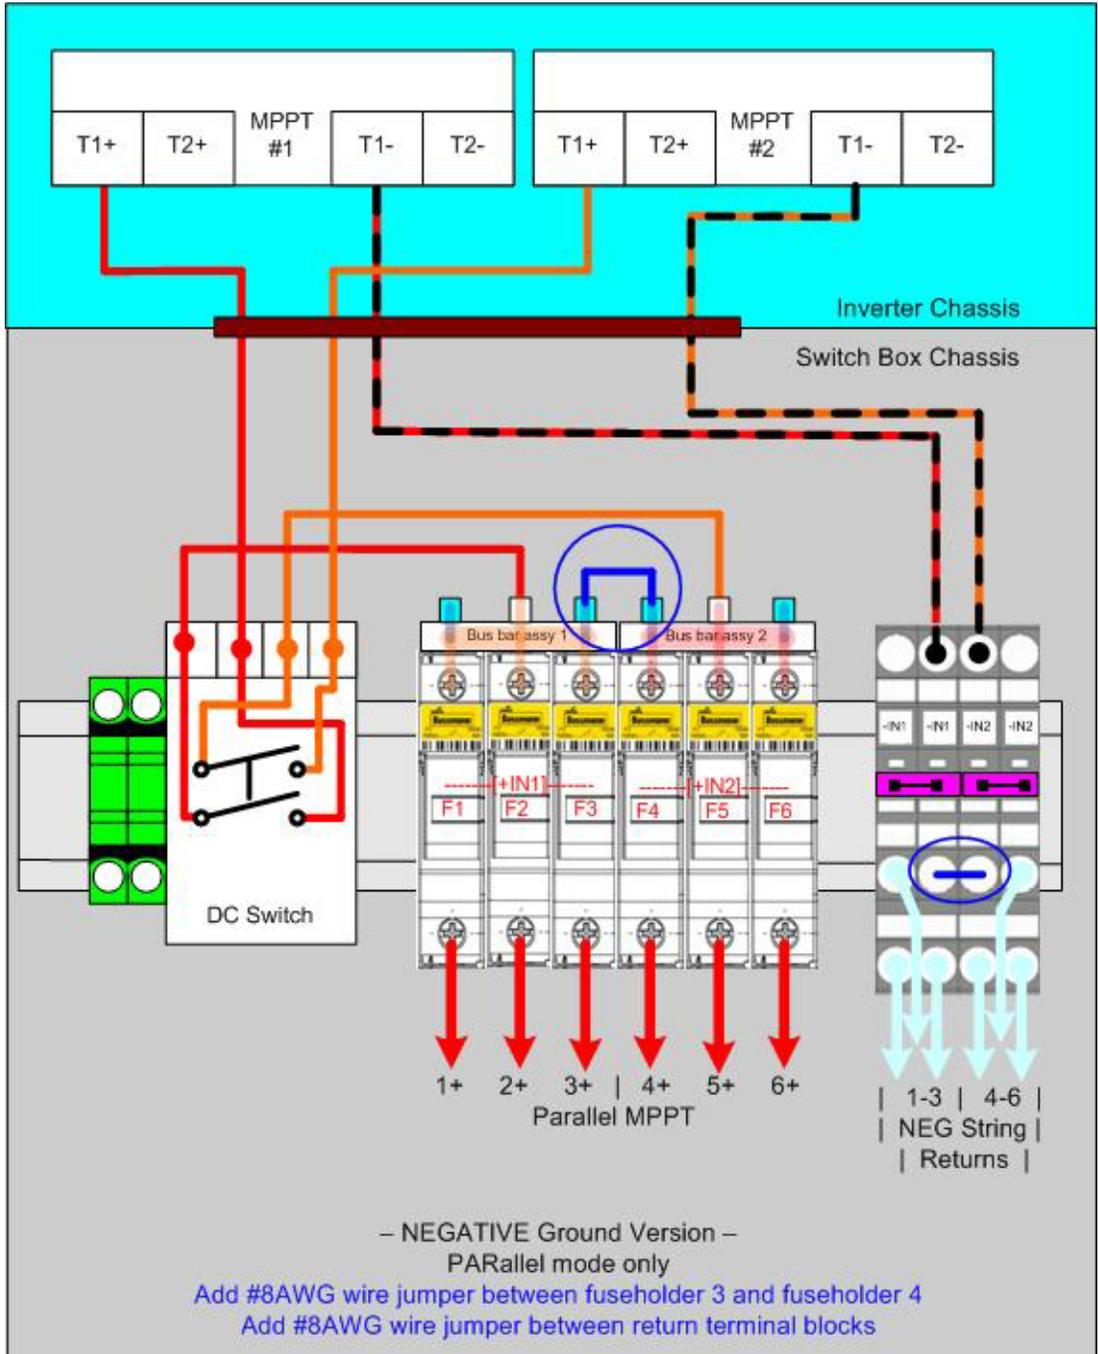

Figure 3.14b - Parallel mode-negative ground version
- Ensure the parallel jumpers shown in Figure 3.14b, are **not present**.
- After switching the AURORA Inverter to independent mode configuration, re-install the front panel (apply 13.2 in-lbs of torque to each of the six (6) screws).